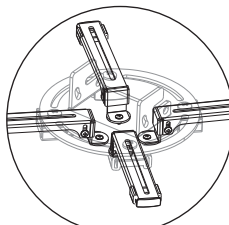

figure 15
3. Connect the installation arms to the projector conversely if the distance of installation holes is less than 120mm. Connect the installation arms (4-3) to the installation base (4-6) via sliding installation button (4-5) as figure 15